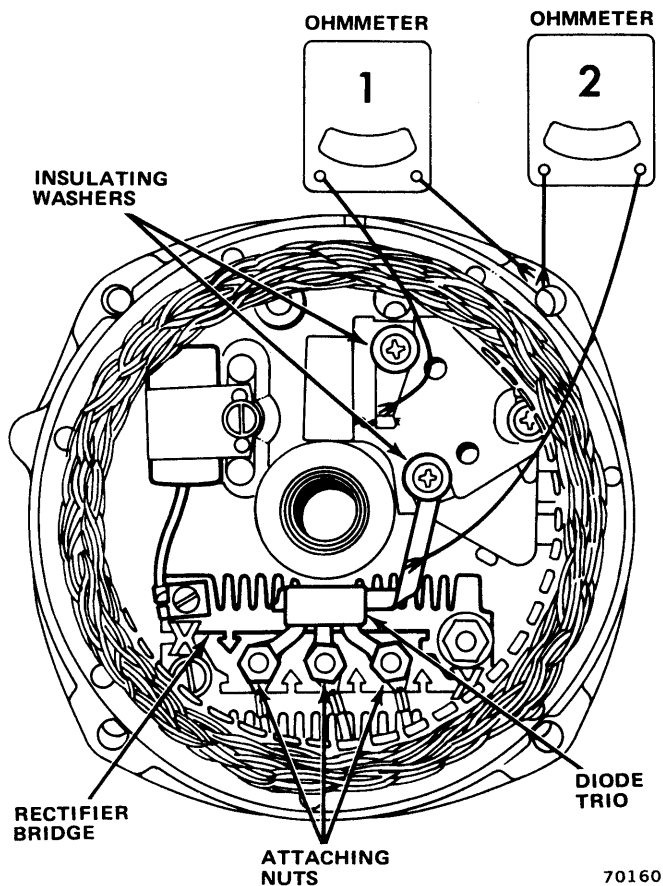

Fig. 3-31 Slip Ring End Frame Assembly
- b. Connect ohmmeter using lowest range scale from brush lead clip to end frame as shown in Fig. 3-31, Ohmmeter 1, then reverse lead connections.
- (1) Before removing the diode trio, connect an ohmmeter, using lowest range scale, from brush lead clip to end frame (fig. 3-31).
- (2) Reverse lead connections. If both readings are zero, check for grounded brush lead clip caused by omission of insulating washer, omission of insulating sleeve over screw, or damaged insulation (fig. 3-31).
- (3) Remove screw to inspect sleeve.